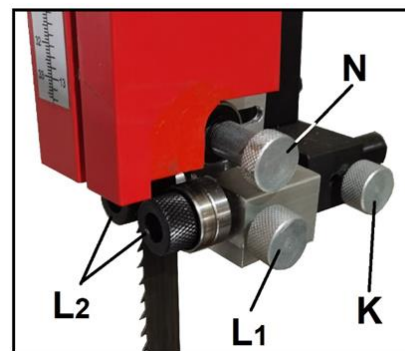

Figure 5-10: blade guide adjustment
Refer to Figures 5-10 and 5-11.
4. Loosen the lock knob (K, Figure 5-10).
6. Tighten lock knob (K, Figure 5-10).
- If thrust bearing does not line up with blade, lateral adjustment of the entire guide bracket can be made using the lock knob (K) and the 2 set screws on opposite side of the upper guide mount.
Refer to Figure 5-10.
- Loosen the lock knob (N, Figure 5-10), and slide thrust bearing until it almost touches back of blade. (This blade-to-bearing gap can be set in similar fashion as the side guides, with business card or dollar bill.)